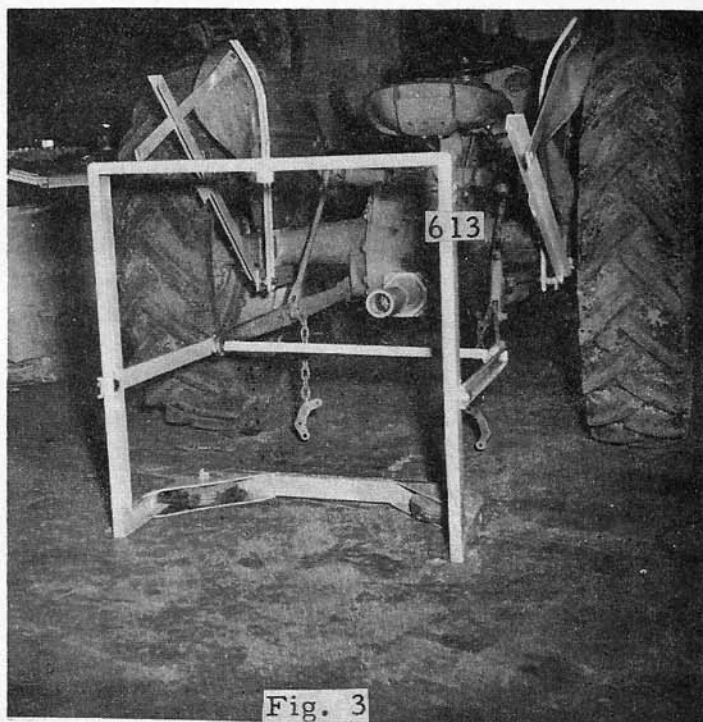

Fig. 3
G. ASSEMBLING FRAME NO. 613 TO DUMP LINKS NO. 615. Fig. 3.
1. Set frame No. 613 in position on ground, with two rubber wheels pointing toward tractor as shown in Fig. 3.